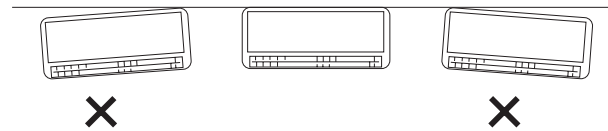

Fig. 2-198
- (2) Double check with a carpenter's level or tape measure that the panel is level. This is important to install the unit properly. (Fig. 2-198)
- (3) Make sure the panel is flush against the wall. Any space between the wall and unit will cause noise and vibration.